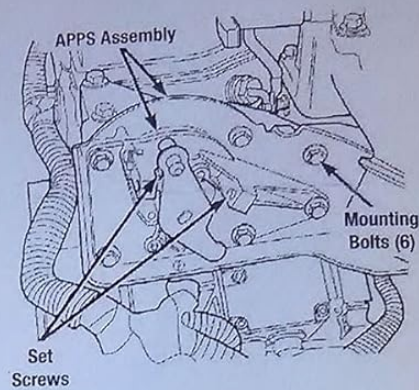

Figure 1
2. Remove the six mounting bolts (Figure 1) and partial pull the assembly away from the engine. Be sure not to place excessive force.
4. Rotate the sensor until APPS voltage reads 0.55V +/- 0.05V. The set screws (Figure 1) should not be adjusted. Tighten the torx screws to a final torque of 50 lb-in. Verify that the reading is still within the specified range after the torx screws have been tightened. Turn the key to the off position.
2. Remove the six mounting bolts (refer to Figure 1 in Image 2.1) and partially pull the assembly away from the engine. Avoid applying excessive force. The cables do not need to be removed from the assembly.
5. Carefully rotate the sensor until the APPS voltage reads 0.55V +/- 0.05V. The set screws (refer to Figure 1 in Image 2.1) should not be adjusted.